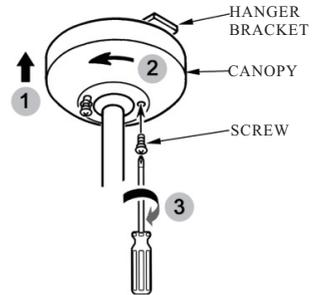

FIG. 9
4. Mount the canopy on the hanger bracket and tighten the screws. (see Fig. 9)